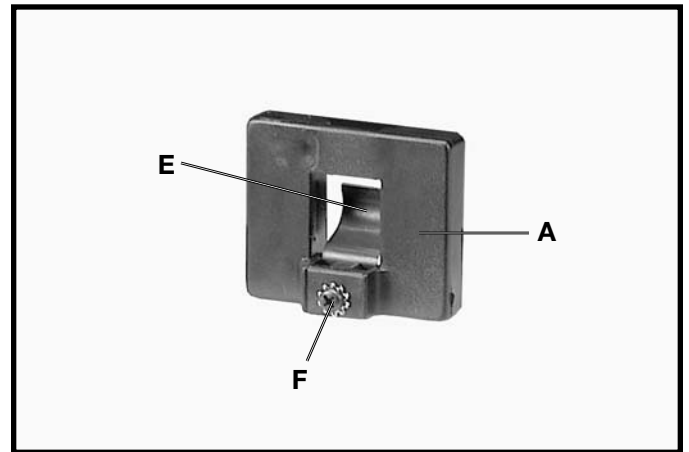
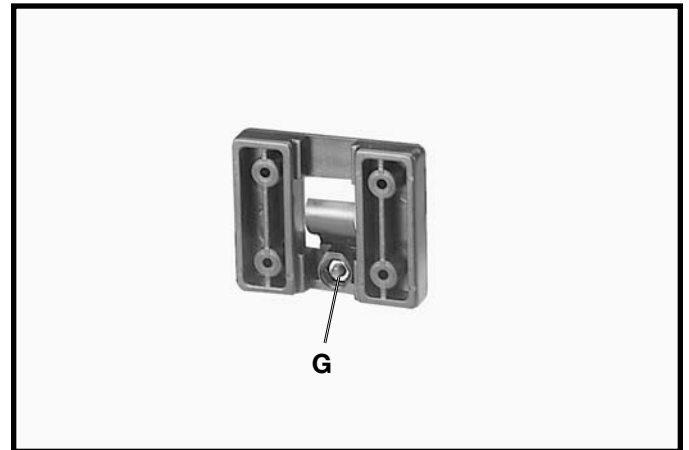

Fig. 13A
Fig. 13B
2. Assemble spring clip (E) Fig. 13A, to the miter gage holder (A) as shown using 10mm pan head screw (F), lockwasher and hex nut. **NOTE:** Hex nut (G) Fig. 13B, will fit into the recess at the back of the miter gage holder (A) to keep spring clip (E) Fig. 13A, secured to the miter gage holder.